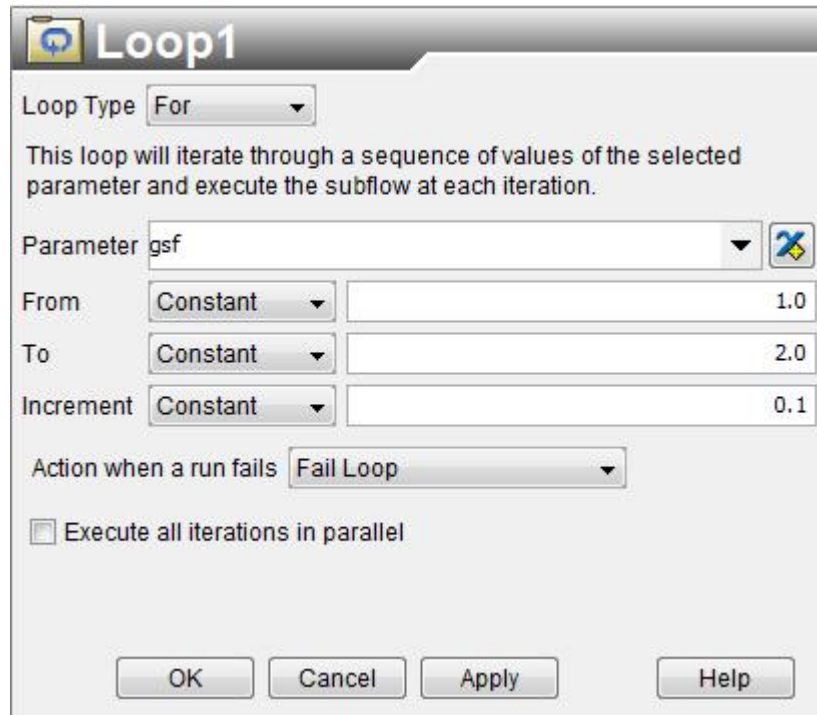

Figure 6-6: Loop setup
- 1) Go back to the Sim-flow tab, double-click the loop component and set up the loop according to Figure 6-6.